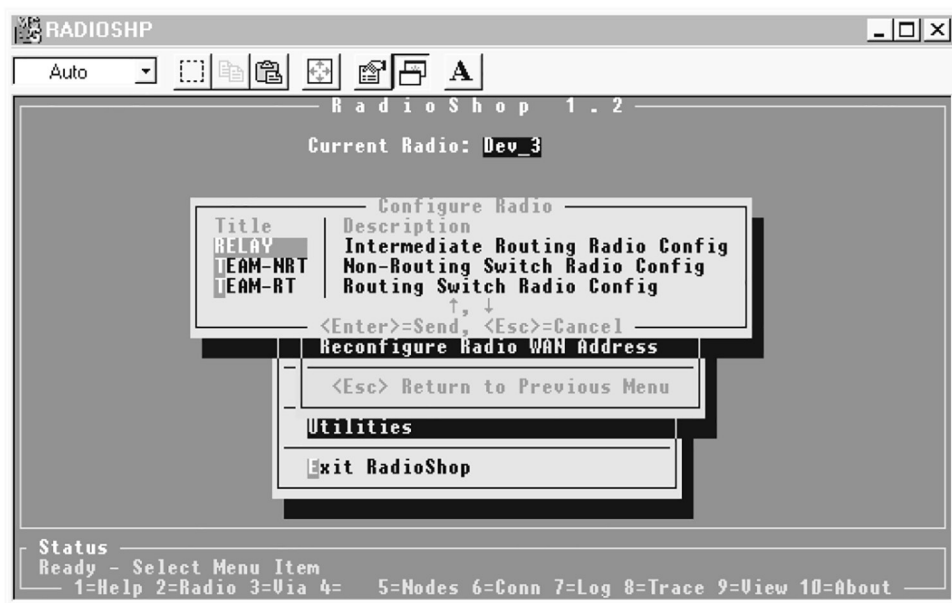

Figure 12. The *Configure Radio* screen.
- (b) At the *Configure Radio* screen, press the <Enter> key to select the **Configure Radio** option to open the list of radio configuration options. See Figure 12.